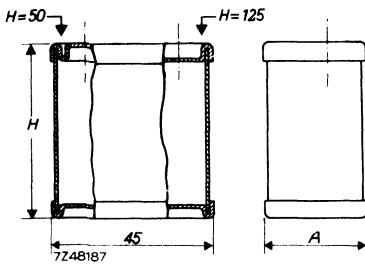

Fig. 1
* 7.5 mm when A (Fig.1) = 15 mm